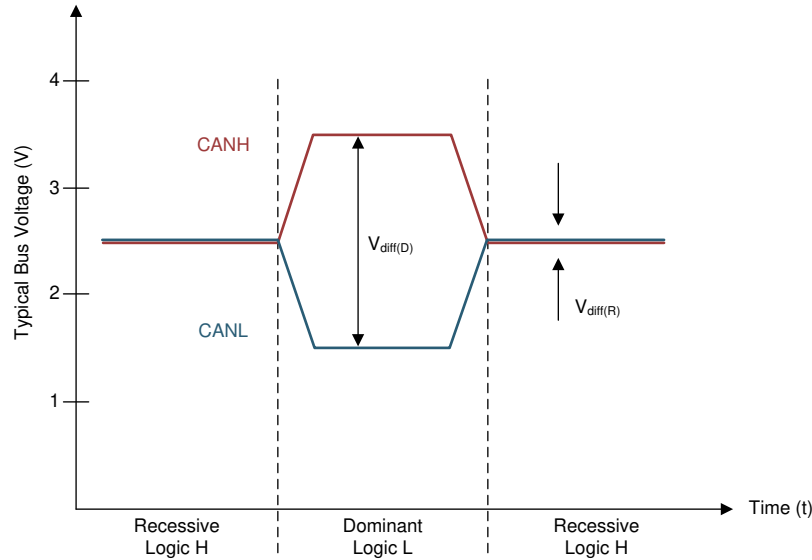
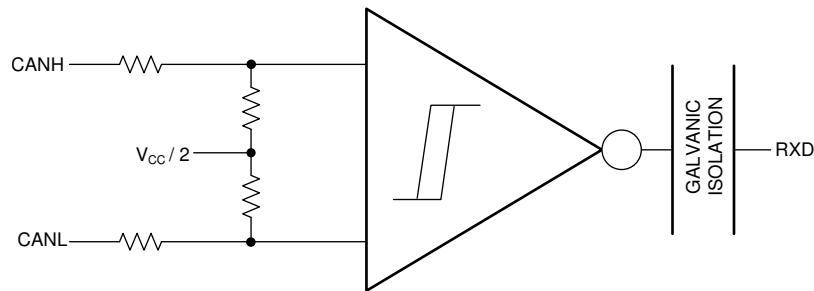

图 8-1. Bus States (Physical Bit Representation)
图 8-2. Simplified Recessive Common Mode Bias and Receiver
The CAN bus has two states during operation: *dominant* and *recessive*. A dominant bus state, equivalent to logic low, is when the bus is driven differentially by a driver. A recessive bus state is when the bus is biased to a common mode of $V_{CC} / 2$ through the high-resistance internal input resistors of the receiver, equivalent to a logic high. The host microprocessor of the CAN node uses the TXD pin to drive the bus and receives data from the bus on the RXD pin. See Figure 8-1 and Figure 8-2.
(1) H = high level, L = low level, Z = common mode (recessive) bias to $V_{CC} / 2$. See 图 8-1 and 图 8-2 for bus state and common mode bias information.